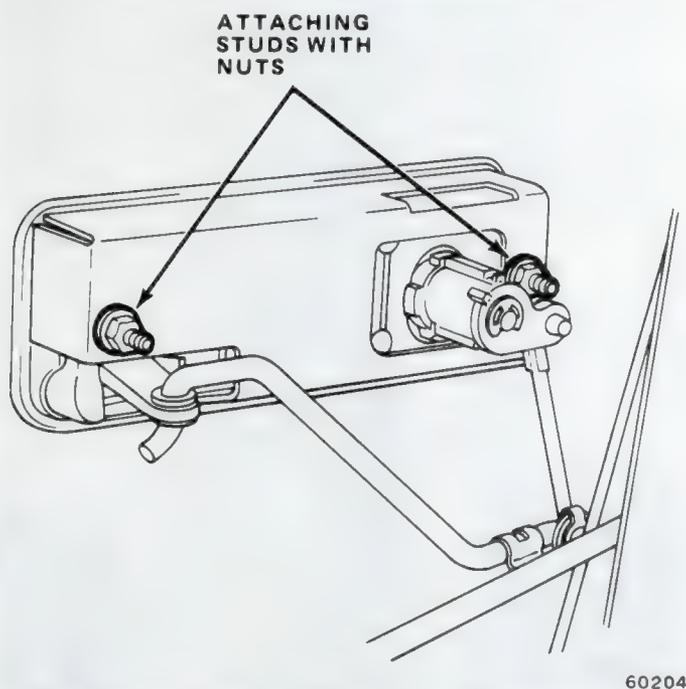

Fig. 3J-52 Outside Door Handle Attachment—Matador
- (1) Remove door trim panel.
- (2) Remove water dam paper.
- (3) Raise window to closed position.
- (4) Disconnect rods from handle (fig. 3J-52).